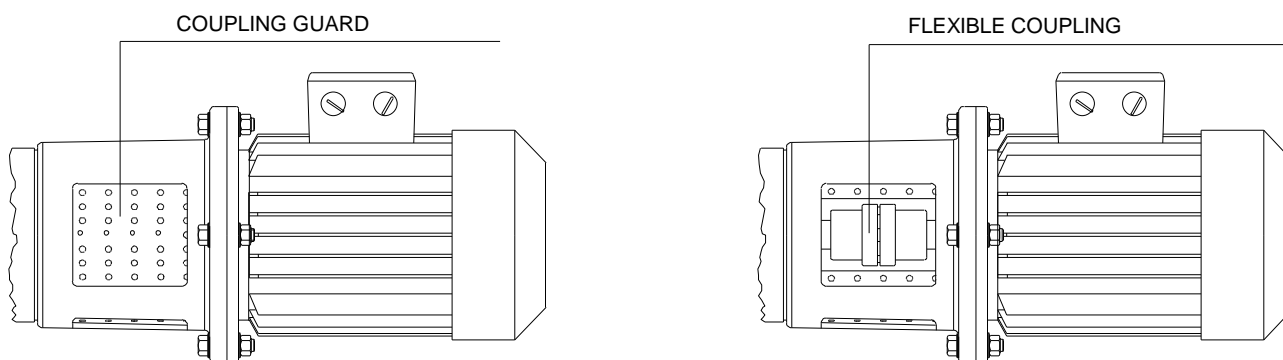

Fig. 21 - CHECKING THE ALIGNMENT ON MONOBLOCK DESIGN
- 3 - Applying slight hand pressure to the coupling guard, rotate it so that one opening of the lantern is accessible (see fig. 21).